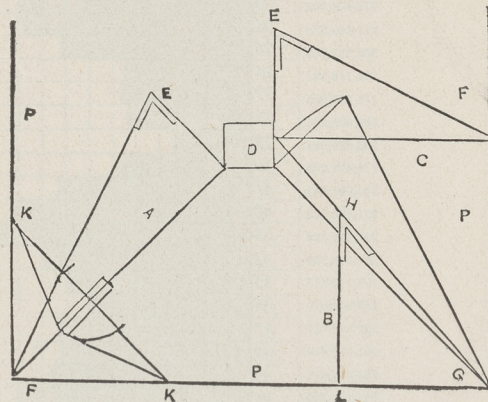

FIG. 1.
Ans.—The laying out of a hip-roof seems to puzzle a great many young carpenters, yet, it is quite simple when the principle is once understood. A valley roof is simply a hip-roof inverted; Suppose p p Fig. 1
should be built substantially as shown in the following illustrations. Fig 1 represents the fire-place, and shows the tiles placed against brick backing, (2). Number 6, the frame, as will be seen, should lap the tiles and the edge of fire brick, (4). The fire-brick (4), (5), should be laid flat, and a mortar-joint made of good bricklayer's mortar.